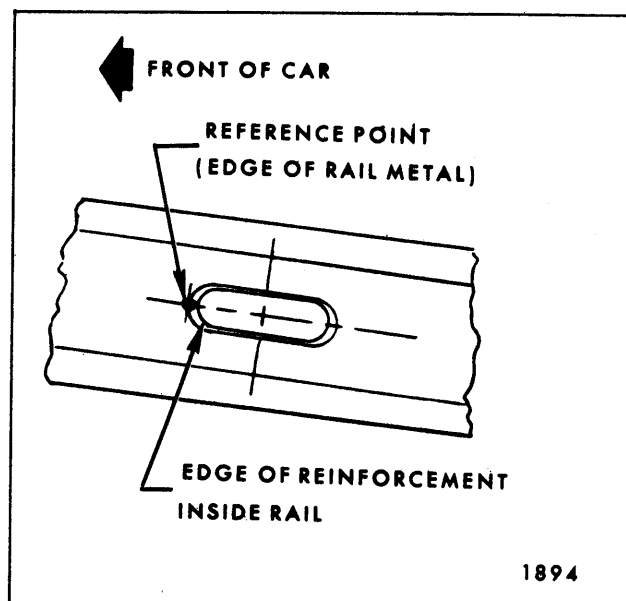

Fig. 3-3—Front Body Tie-Down Slot
flush to the adjacent surface metal. Dimensions to body front tie down slots are measured to the front centerline edge of the slot (see Fig. 3-3). Dimensions to bolt or bolt hole locations are measured to the dead center of the thread diameter of the bolt or bolt hole, unless specified otherwise.
| F | 46 | 3/4" hole in front compartment side rail and body tie down slot on same side of body (use front center of slot of side rail metal - See Fig. 3-3). |
| G | 59-29/32 | 3/4" hole in front compartment side rail and body tie down slot on opposite side of body (use front center of slot of side rail metal - See Fig. 3-3). |
- L 45-23/32 Front suspension front attaching bolt hole or bolt head and body front tie down slot on opposite side of body (use front center of slot of side rail metal - See Fig. 3-3).
- O 31-3/8 Front suspension front attaching bolt hole or bolt head and body front tie down slot on same side of body (use front center of slot of side rail metal - See Fig. 3-3).
- P 40-3/16 Body front tie down slot (use front center of slot of side rail metal - See Fig. 3-3).
- Q 72 Body front tie down slot (use front center of slot of side rail metal - See Fig. 3-3) and 3/4" master gage hole in motor compartment side rail-to-rocker panel brace on opposite side of body.
- R 58-13/32 Body front tie down slot (use front center of slot of side rail metal - See Fig. 3-3) and 3/4" master gage hole in motor compartment side rail-to-rocker panel brace on same side of body.